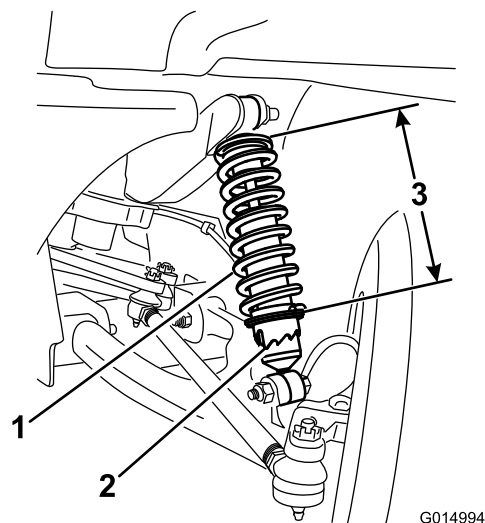

Figure 43
3. Using tool Toro 6010, rotate the collar on the shock absorber to change the length of the spring (Figure 43).